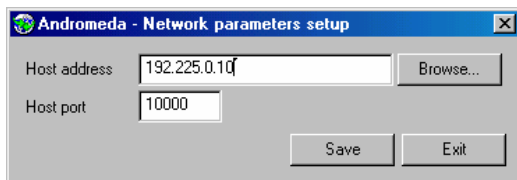

Figure 35 - Network Parameters Setup
- ◆ Specify the name or IP Address of the Andromeda server (i.e., Event Manager workstation) and the port number (1000 in most setups). See Figure 35.